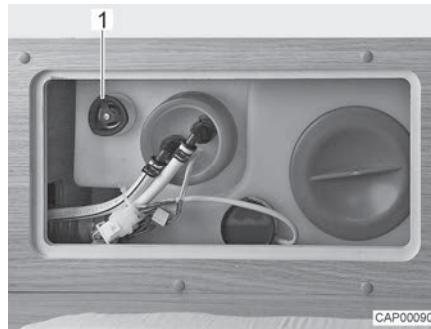

Fig. 74 Water tank with rotary handle
- Turn the rotary handle (Fig. 74,1) on the water tank in an anticlockwise direction as far as possible beyond the resistance to fully open the drainage opening.